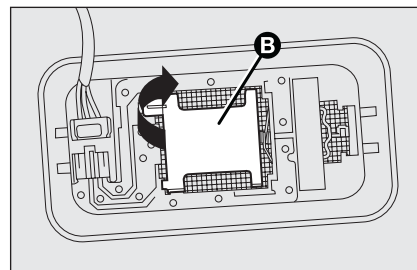

fig. 42
- ☐ open the lid **B**-fig. 42 as indicated;
- ☐ close the lid **B-fig. 42** and secure the ceiling light in its housing locking it properly.